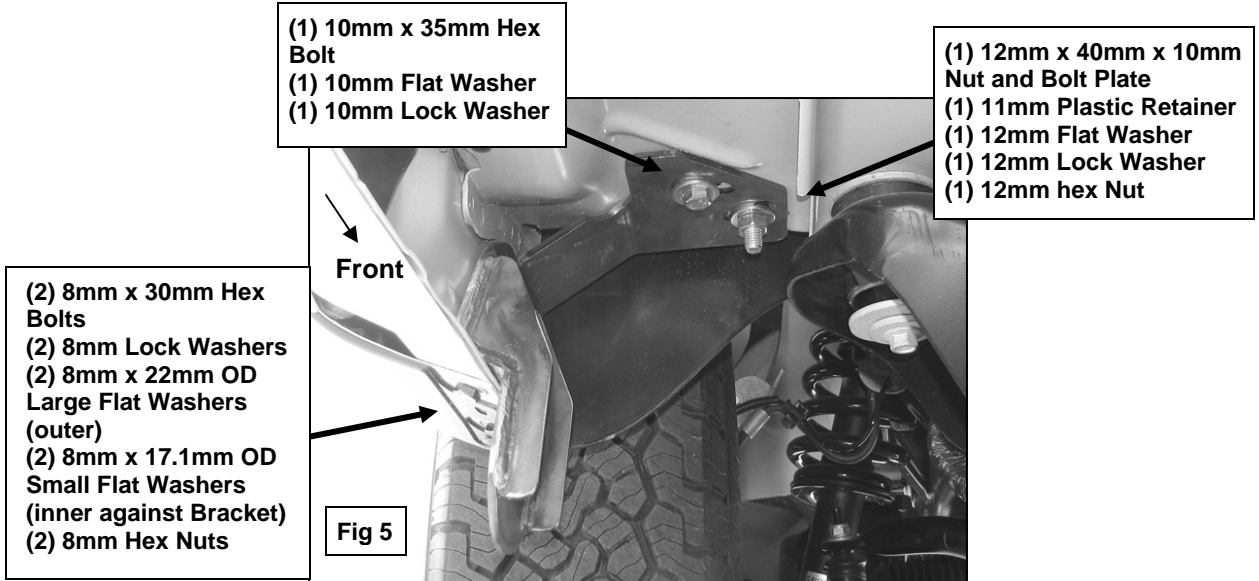

Fig 5
5. Align the holes in the pinch weld with the holes in the front Mounting Bracket. Insert (2) 8mm x 30mm Hex Bolts with (2) 8mm x 22mm OD x 1.5mm Large Flat Washers up from below and secure with (2) 8mm x 17.1mm OD x 1.3mm Small Flat Washers, (to clear the bracket), (2) 8mm Lock Washers and (2) 8mm Hex Nuts, **(Figure 5)**. Do not tighten at this time.